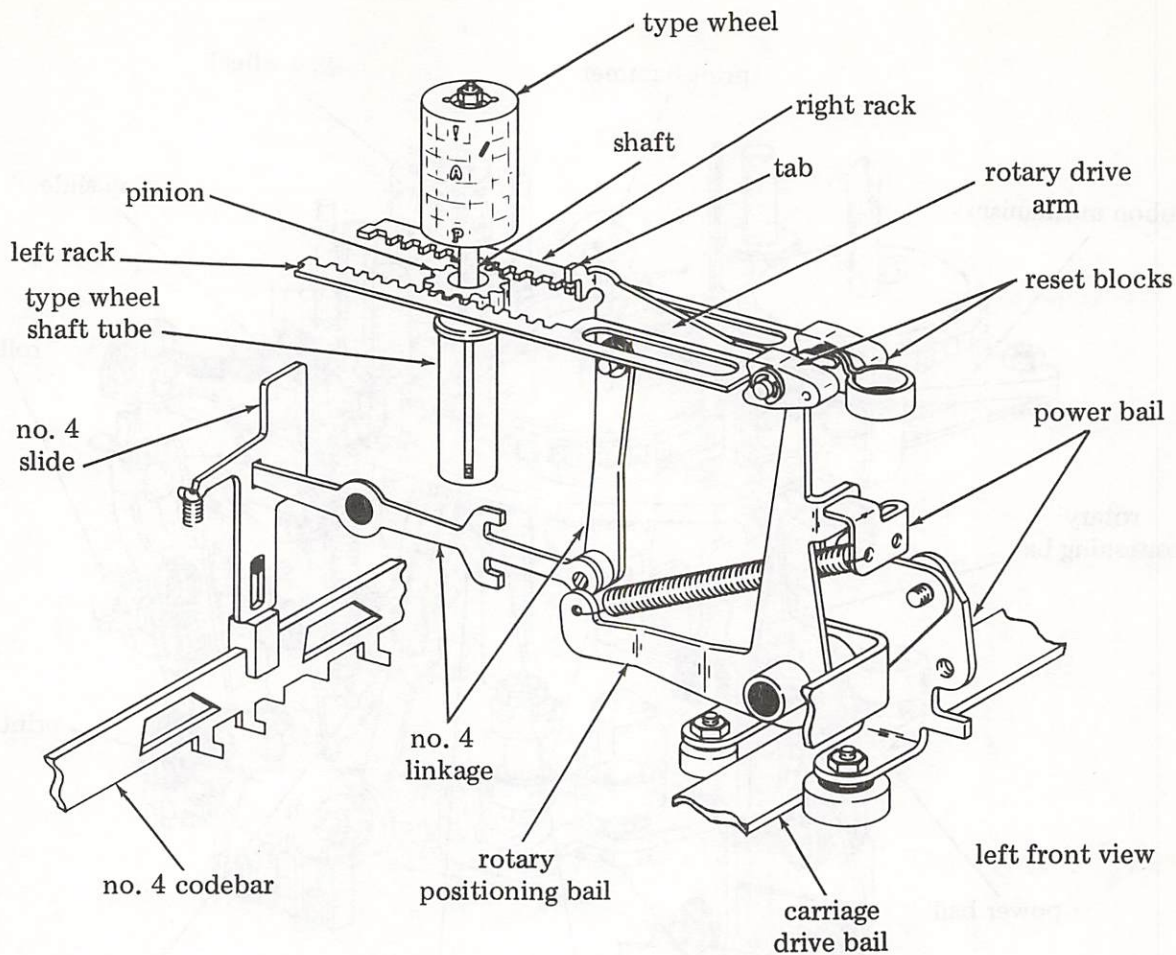

Figure 26 - Rotary Positioning Mechanism
4.59 Referring to Figure 26, the rotary positioning bail is held against the power bail by a spring. Connected to the rotary
4.60 As the power bail rotates, the rotary positioning bail rotates. The rotary drive arm is engaged with one of the racks and causes it to move, turning the pinion with which it is meshed (Figure 26). The pinion, being an integral part of the tube, turns the tube. The tube turns the cross pin fastened to the type wheel shaft and type wheel.